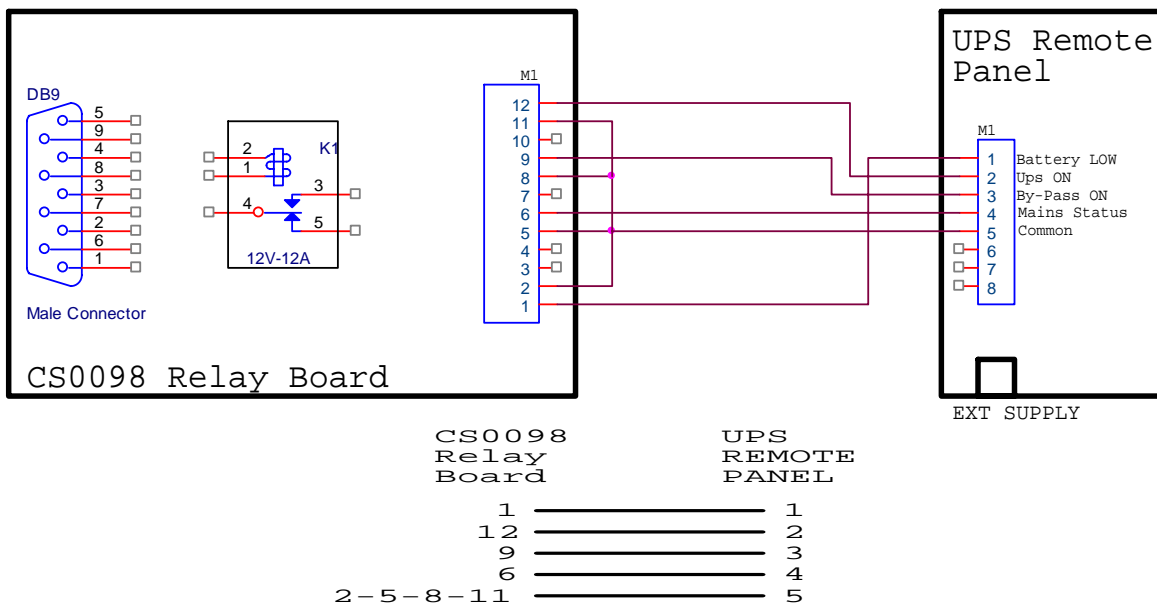

Fig. 2.7.2a
This is connected to the UPS via the terminal board M1 located on the remote communication board (CS0098)(connection diagram fig. 2.7.2a). This device is used for remote monitoring of the main UPS blocks, the status of the main blocks is represented through LEDs, and there is also an acoustic alarm, which can be shut off with key 5.